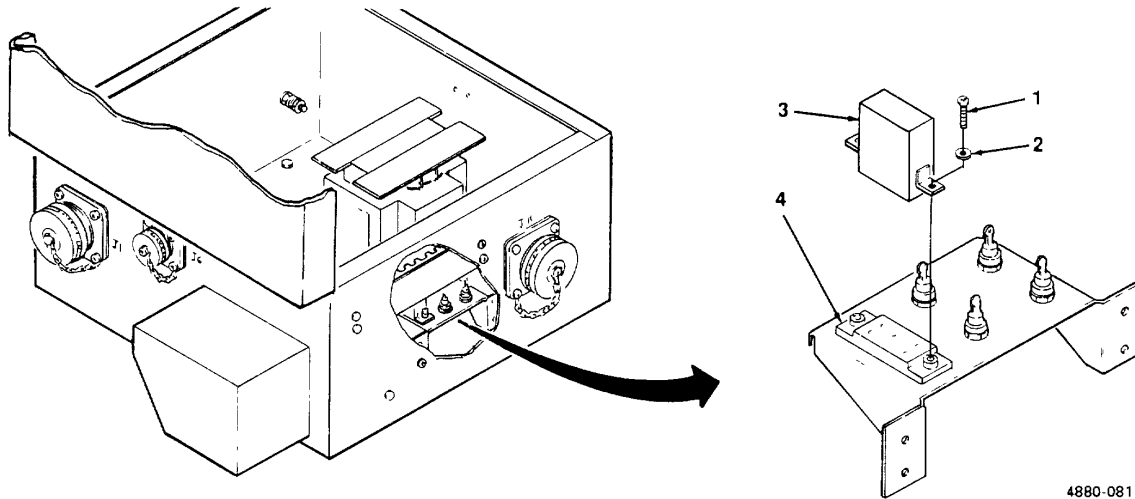

Figure 4-16. PDU Relay Replacement.
4-25. PDU Relay K3 Testing and Replacement. (See figure 4-16).
- (1) Release cover latch and open PDU cover.
- (2) Remove two screws (1, figure 4-16) and two washers (2).
- (3) Unplug and remove relay (3) from socket (4).